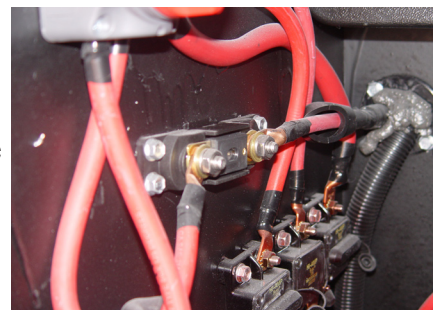
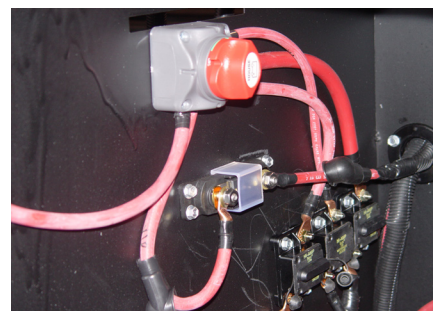

Figure 4
Figure 5
4. Install the 125 amp fuse on the fuse holder. Install the jumper wire on one end of the fuse. Add lockwasher and nut and secure. Install the 12 Volt power lead from the inverter (prior removed from the disconnect) to the other end of the fuse using a lockwasher and nut. (Figure 4) Install the clear cover over the connections onto the fuse holder. (Figure 5) Slide the rubber boots over the terminal and wrap a piece of tape over the end of boot and cable to prevent slip from the terminal connection.